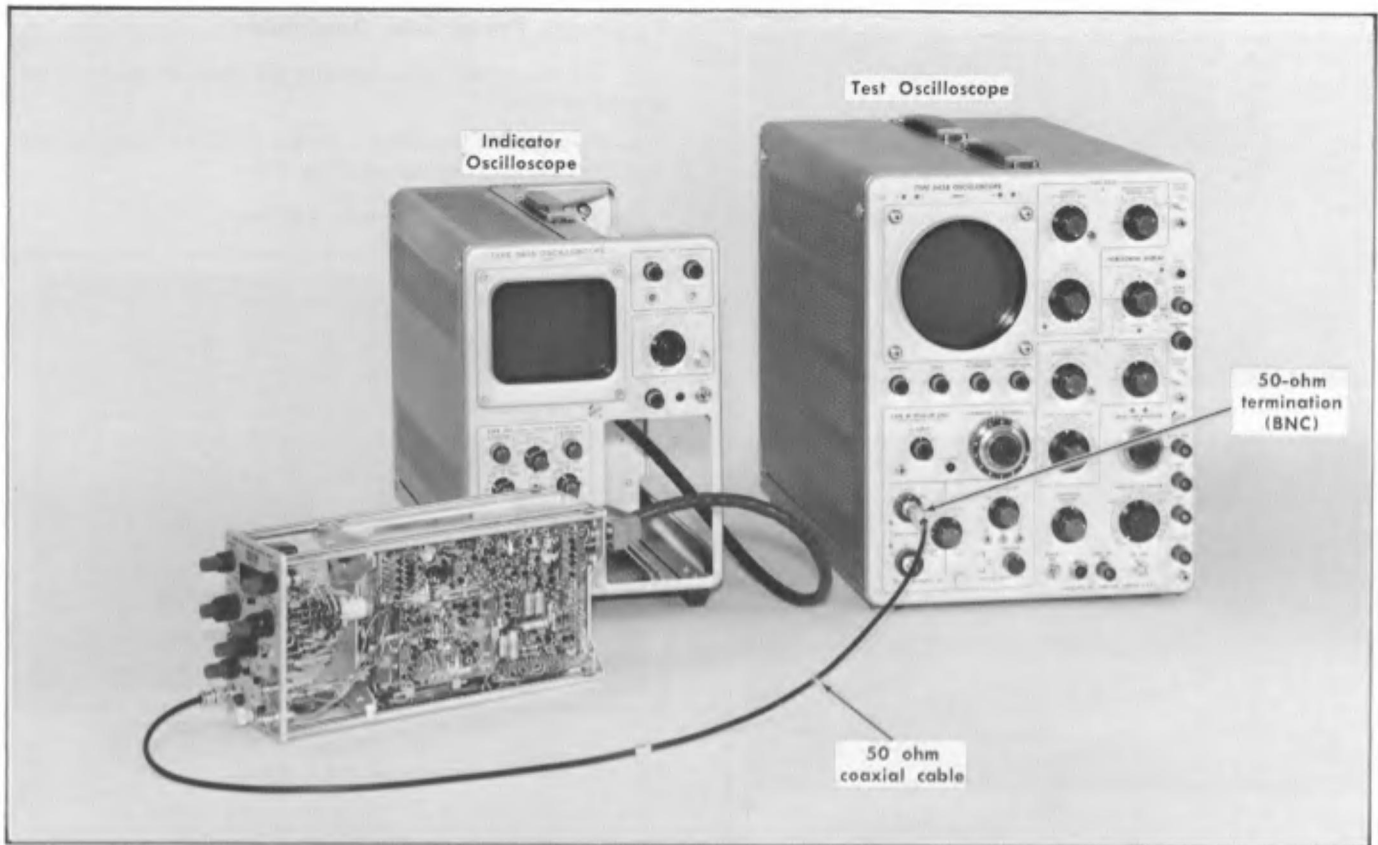

Fig. 7-6. Initial test equipment setup for steps 6 through 11.
a. Connect the Type 3T2 PULSE OUT signal to the Type W Input A connector through a 50  $\Omega$  coaxial cable and a 50  $\Omega$  termination. The initial test equipment setup is shown in Fig. 7-6.